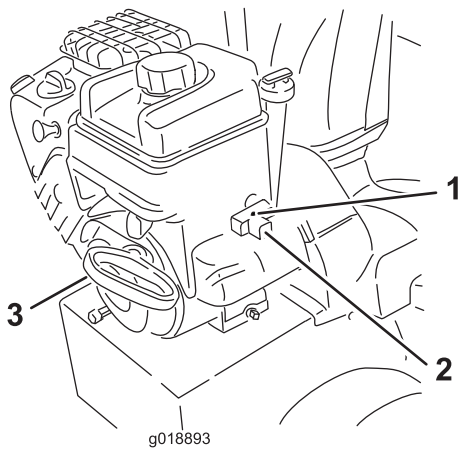

Figure 25
7. Start the machine pulling the recoil-start handle or pressing the electric-starter button (Figure 25).